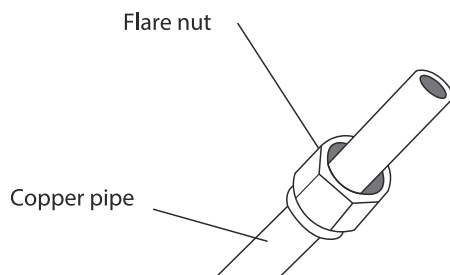

Fig. 5.3
- 3 Place flare nuts on both ends of pipe. Make sure they are facing in the right direction, because you can't put them on or change their direction after flaring. See Fig. 5.3 .